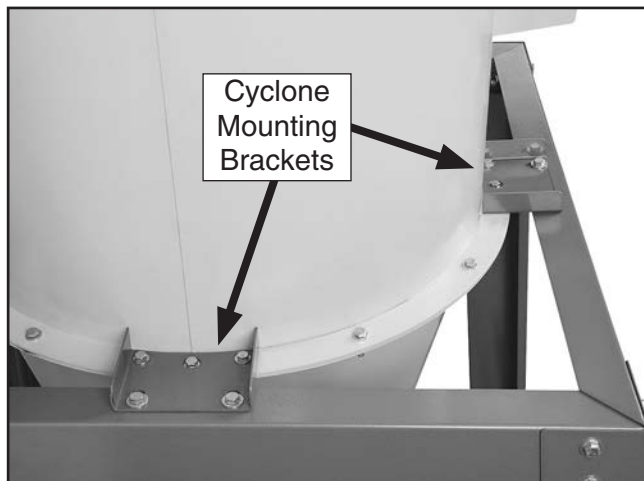

Figure 29. Mounting blower/intake assembly to upper stand.
19. Lower the blower/intake assembly into the upper stand assembly so that the cyclone mounting brackets align with the mounting holes of the upper stand braces (see **Figure 29**).